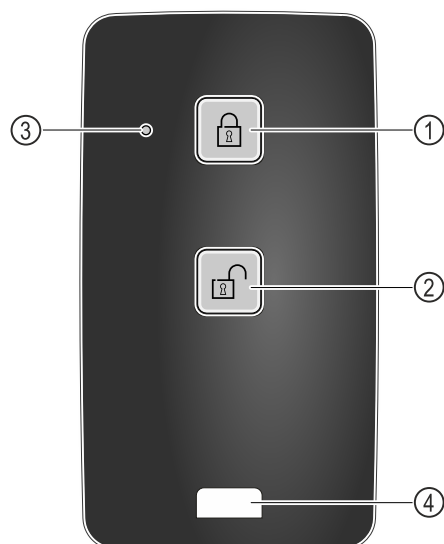

Fig. 212
- (1) Engage lock
- (2) Unlock lock
- (3) Status LED
- (4) Fastening eyelet
- Press button Fig. 212 (1) on the remote control.
- Press button Fig. 212 (2) on the remote control.
- Status LED Fig. 212 (3) provides a visual acknowledgement when you press the button.
- Eyelet Fig. 212 (4) for attaching remote control, for example, to a key ring.